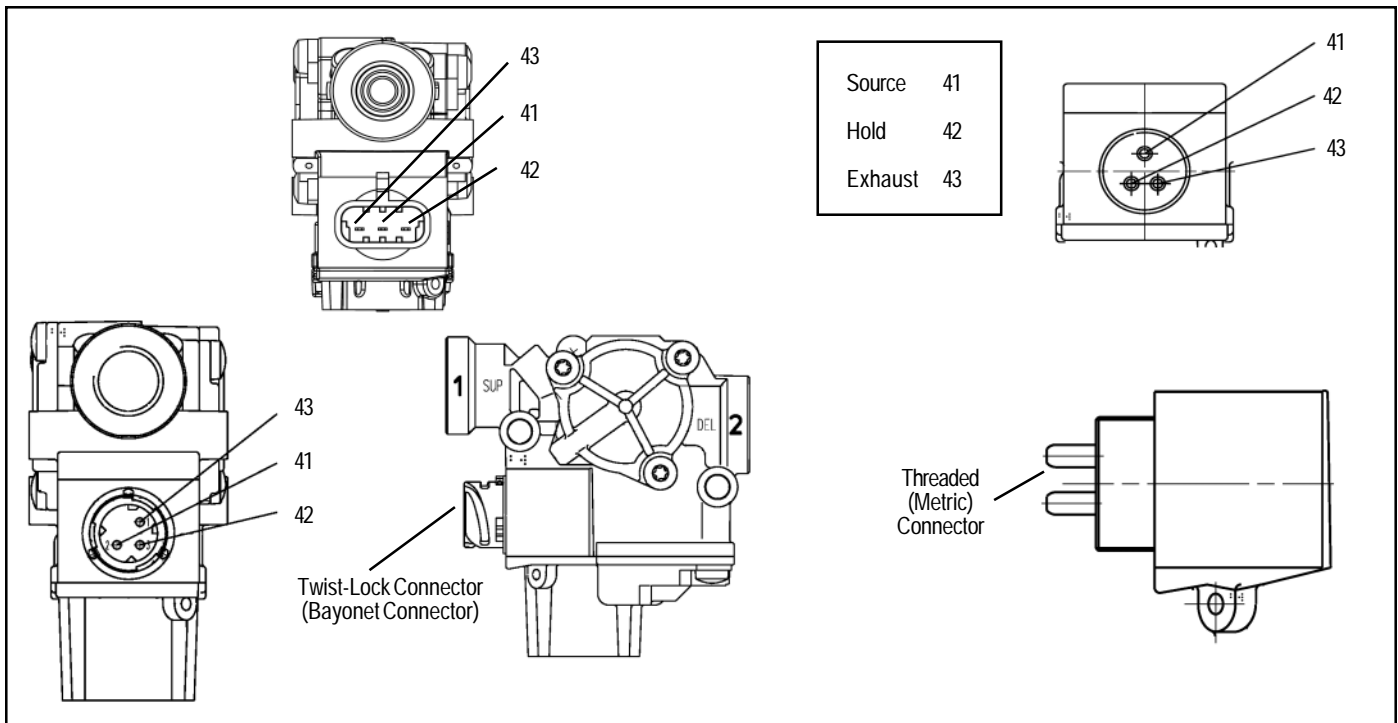

FIGURE 10: M-32™ AND M-32QR™ MODULATORS CONNECTOR VIEWS
2. Proceed to the modulator in question and inspect its wiring connector. Disconnect the connector and test the resistance between the pins ON THE MODULATOR. Refer to Figures 10 and 11.